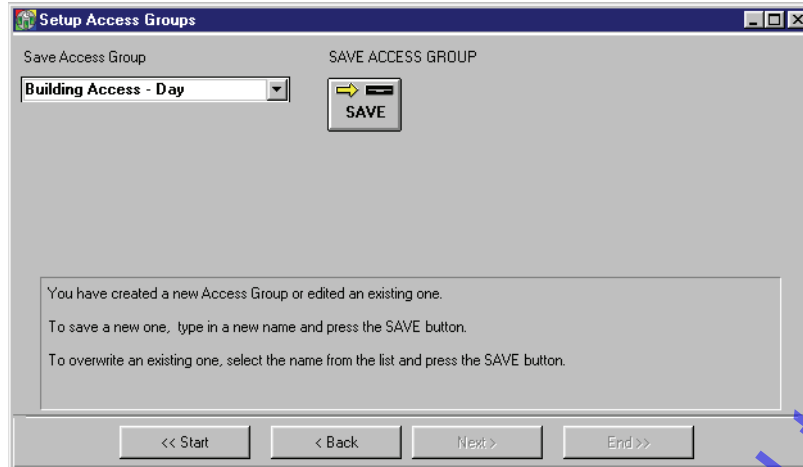

Figure 3-38: New Access Group Saved
- Click in the "Save Access Group" field and type a descriptive name for this access group. For this example, type **Building Access - Day**. The window should look similar to Figure 3-38 on page 49 of this section.